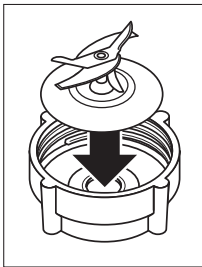

Figure 2
2. Place Blade into Threaded Jar Bottom (Figure 2).